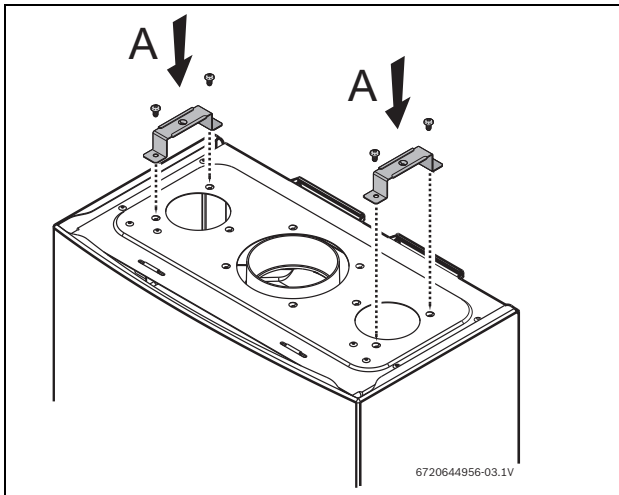

Fig. 8
- ▶ 1. Attach the supports (A) to the appliance by fastening with the four provided screws, as shown in Fig. 8.